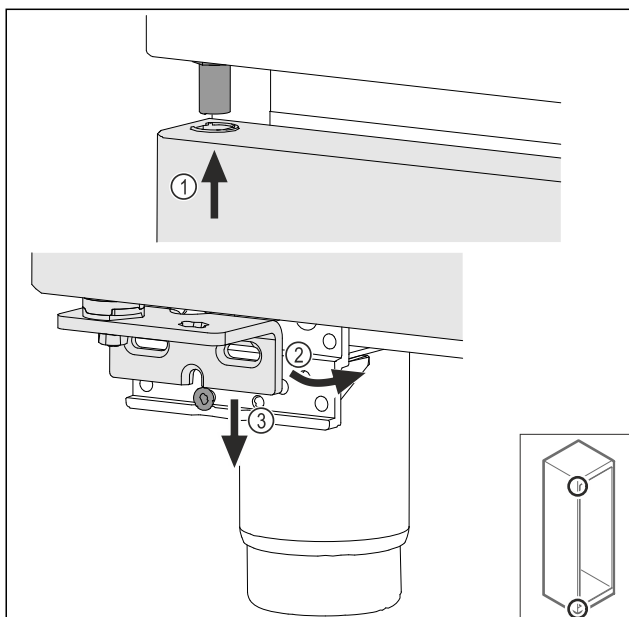

Fig. 62
- Insert the door slightly tilted at the top Fig. 62 (1), align the door straight Fig. 62 (2) and place it on the bottom of the swap bearing block screw Fig. 62 (3).